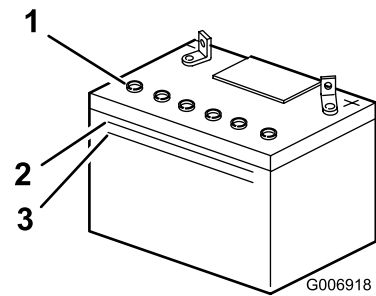

Figure 35
2. Look at the side of the battery. The electrolyte must be up to the upper line (Figure 35).
**Note:** Do not allow the electrolyte to fall below the lower line (Figure 35).
2. Remove the filler caps (Figure 35).
3. Slowly pour distilled water into each battery cell until the level is up to the lower part of the tube (Figure 35).